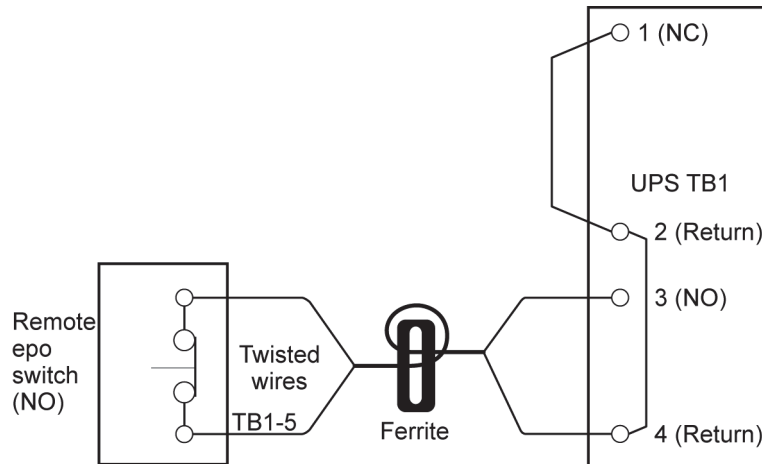

Figure 4-28. Normally-open remote EPO switch wiring
9. Route and connect the wiring as shown in Table 4-2 and Figure 4-28.